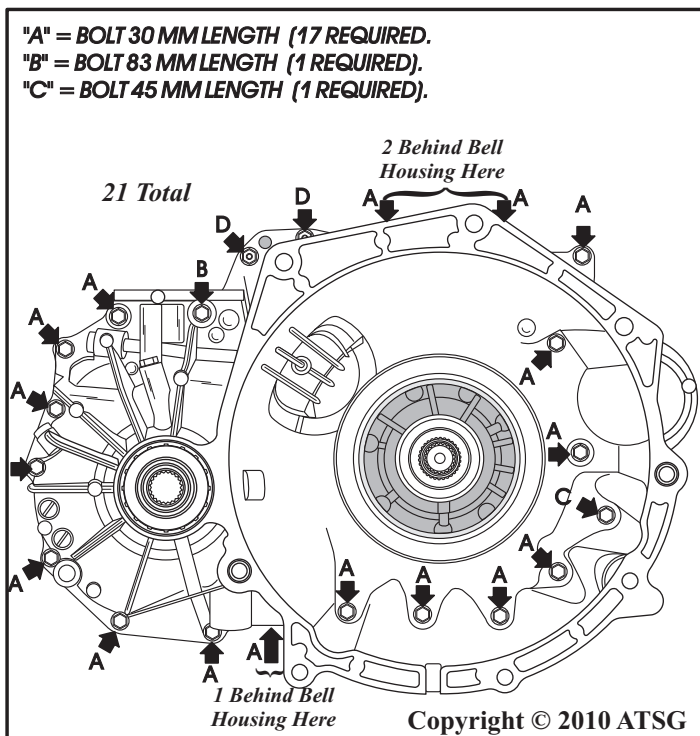

Figure 65
2. Remove the 21 converter housing bolts shown in Figure 65, using a 12 mm socket or wrench.
Note: Converter housing bolt configuration will vary depending on model and year. Some locations have "stud" bolts (See Figure 65).